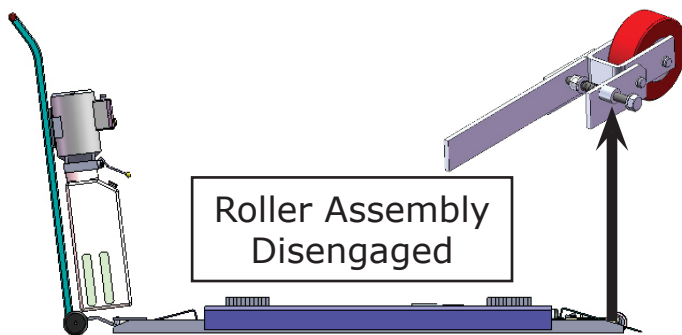

Fig. 16
2. The roller assembly must be disengage when lifting vehicle (**See Fig. 16**).
5. Move lift: Pull up roller bracket, lock two roller assembly to the lift with roller shaft. (**See Fig. 16 & 17**). Moving the lift by the power unit stand.